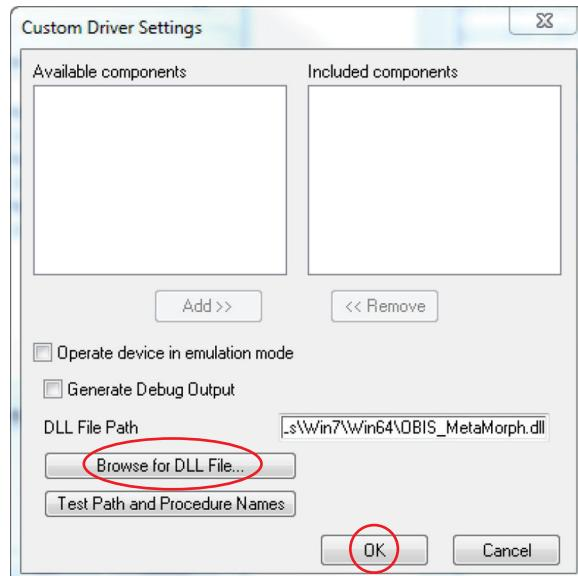

Figure VI-13. Browse for DLL File
- Click the Browse for DLL file button, as shown in Figure VI-13.